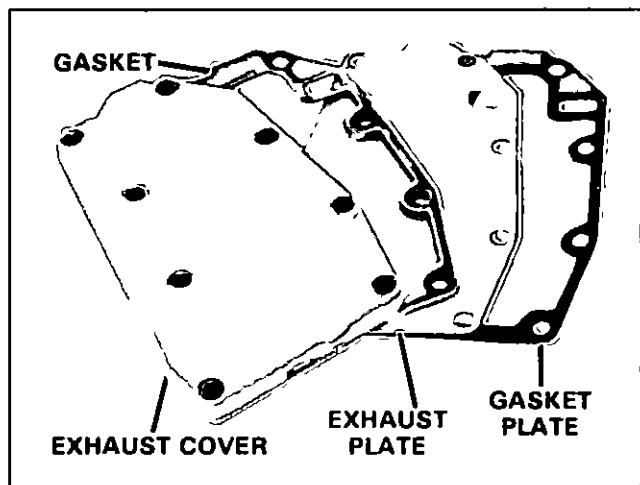

Figure 38. Positioning Exhaust Cover, Gaskets, Plate.
12 Install exhaust cover assembly in following order exhaust cover gasket, exhaust plate, (second) exhaust cover gasket, exhaust cover, install eight (8) hex head screws and lead wire clip Torque to 90 in lbs (103 kg/cm) Figure 38